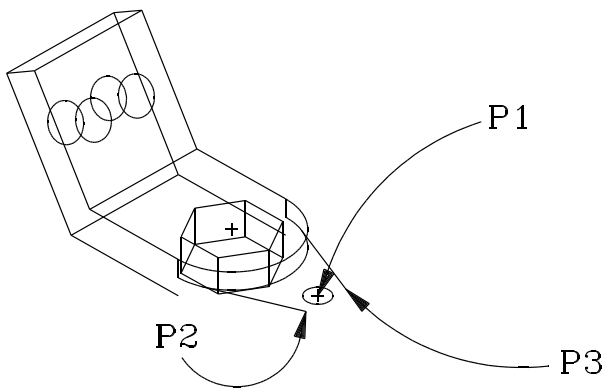

Figure 13
55. Click on points P1, P2, and P3, as shown in Figure 13.